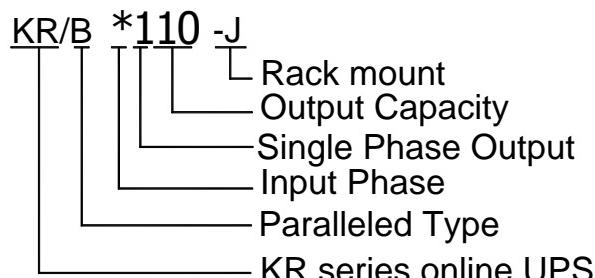

Fig.1-2 KR-J 10KVA model meaning
2. Model Meaning of UPS KR-J 10KVA is shown in Fig. 1-2.
As information shown in Fig.1-2, “KR” means the product is high-frequency UPS of Kehua KR Series. “1110” means that it is 1 phase in and 1 phase out, the output capacity is 10KVA. “-J” means that the product is a rack mount type.